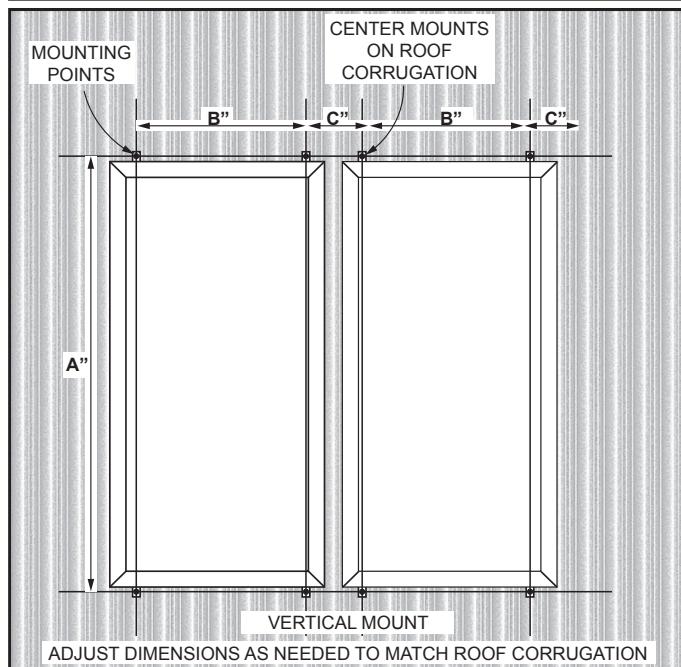
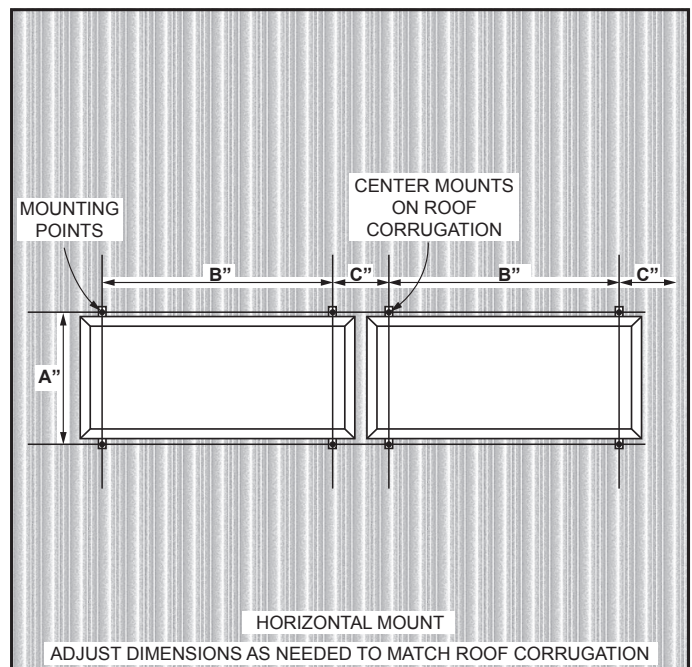
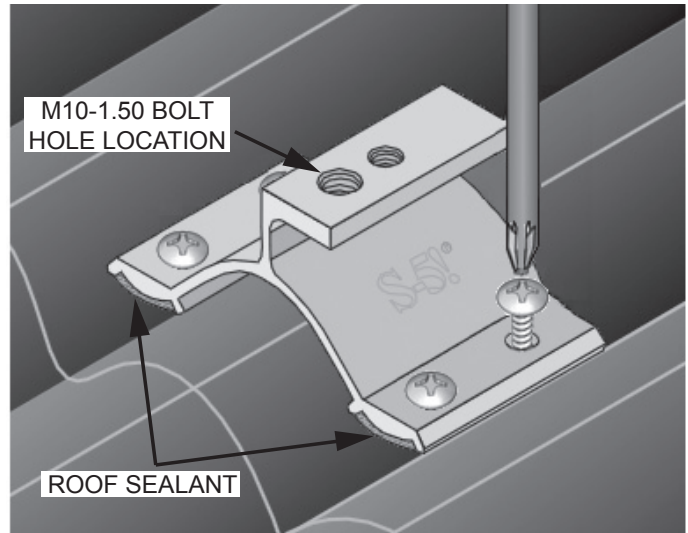

Figure 1.
Figure 2.
Figure 4.
2. Layout the roof per Figure 1 for vertical mounting, Figure 2 for horizontal mounting, and Table 1. Note that the M10-1.50 bolt hole in the corrugated metal roof mounting bracket should be located at the center of the mounting points shown in Figures 1 & 2. See Figure 4 for bolt hole location.
4. Attach the corrugated metal roof bracket to the supporting roof structure with the included #14 x 3" OMG heavy duty roof fasteners. If a longer fastener is required, use only OMG brand or equivalent. In some cases, a pilot hole of the proper size may be required to install the fastener. Alternate from side to side when installing and tightening the fasteners. See Figure 4.